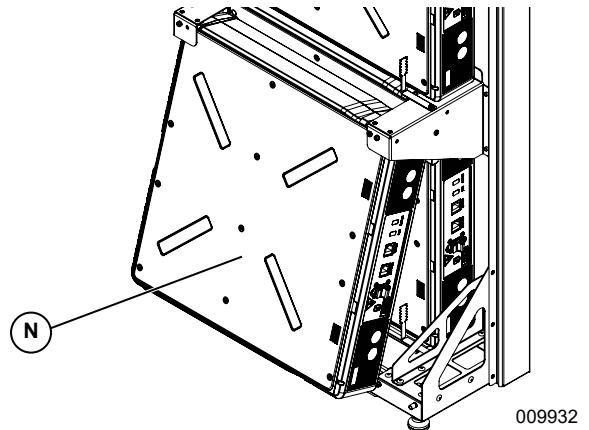

Figure 4-10. Installing Front Battery Modules
See Figure 4-10. Install front battery modules (N) using the same procedure as used on the rear modules. See Installing Rear Modules